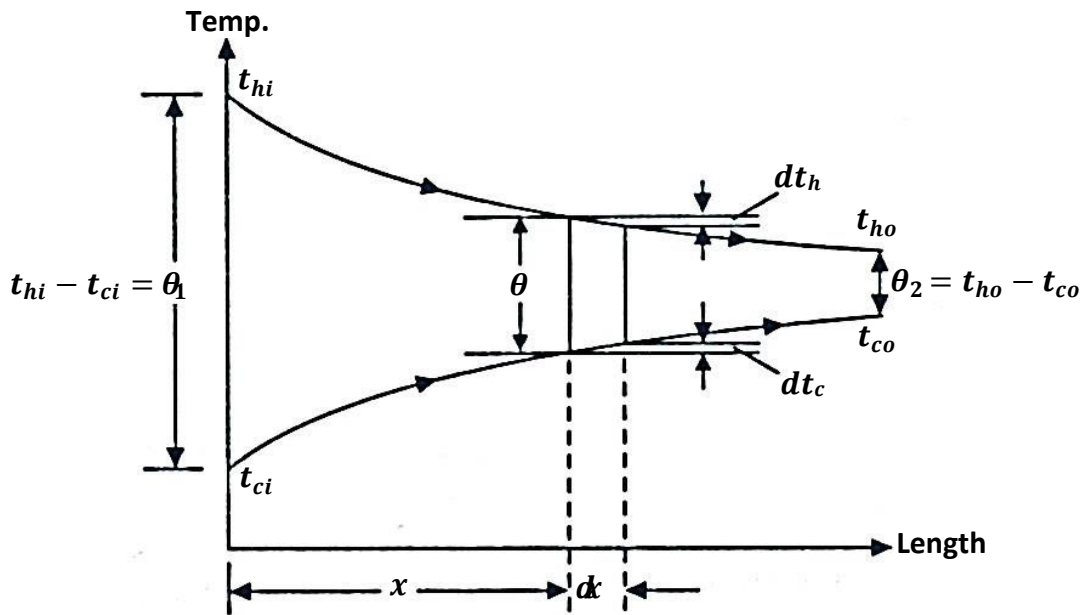

Fig. 9.9(b) Temperature changes of fluids during parallel flow arrangement
- Consider heat transfer across an element of length dx at a distance x from the entrance side of the heat exchanger as shown in Fig. 9.9(b).
- In parallel flow, due to heat exchange, the temperature of the hot fluid decreases by dt_h and the temperature of cold fluid increases by dt_c in the direction of heat exchanger length (Refer Fig. 9.9(b)).